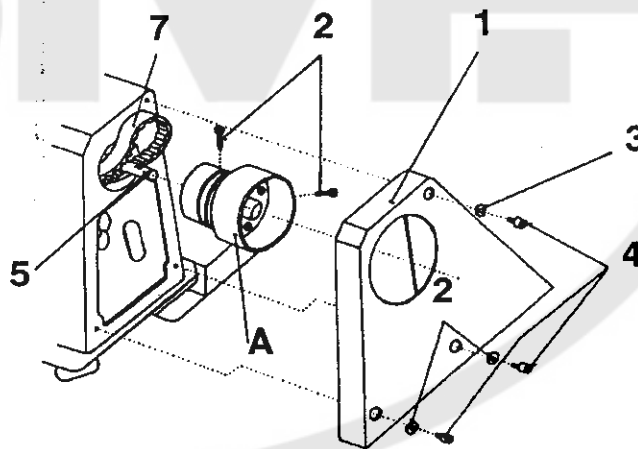

Figure 3
4. V-belt and its tension (Fig. 3)
15. To dismantle and mount the drive belt (Fig. 3)